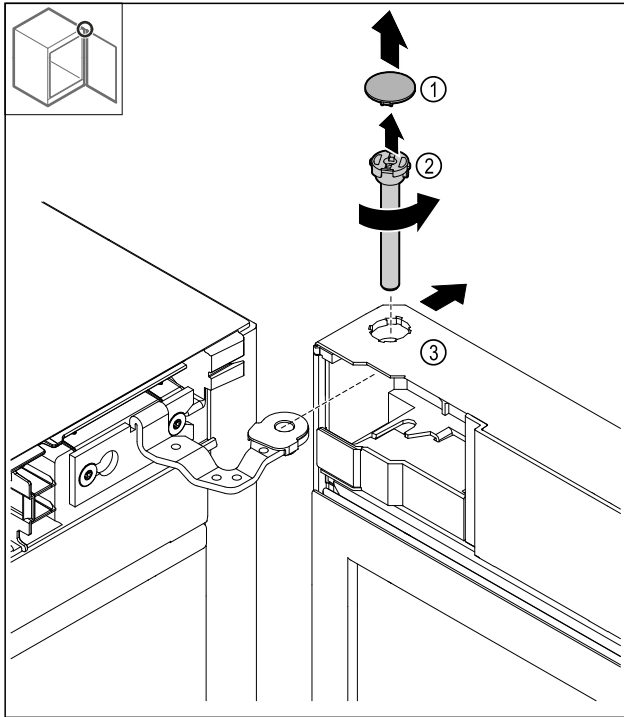

Fig. 14
- ▶ Take off the Fig. 14 (1) cover.
- ▶ Unscrew the pin Fig. 14 (2) counterclockwise and pull it out.
- ▶ Tilt the door Fig. 14 (3) slightly.